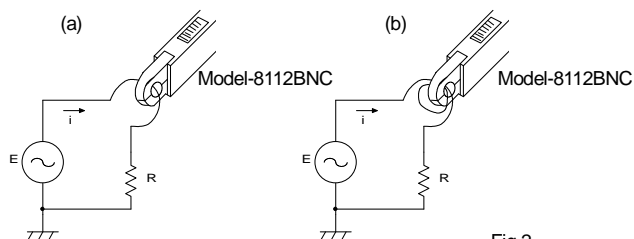

Fig.2
- (1) Connect the connector (4) of the adaptor to the vertical input terminal of the oscilloscope.
- (2) Slide the knob (2) backward to open the jaws and clamp on a current carrying conductor (refer to Fig.2). In example (a), output voltage selected by the range selector will be obtained. In case of (b), output voltage twice the value selected by the range selector will be obtained since two turns of the conductor is clamped as illustrated.
- (3) Arrow mark on the jaws indicates polarity relative to the current flowing through the conductor. When the current flows in the arrowed direction, output will be positive (+).
- (4) Select a desired range according to the current flowing through the conductor.
- (5) Where the current waveform is affected by noise, clip the earth lead onto the earth terminal of the probe and connect it to the circuit under test.